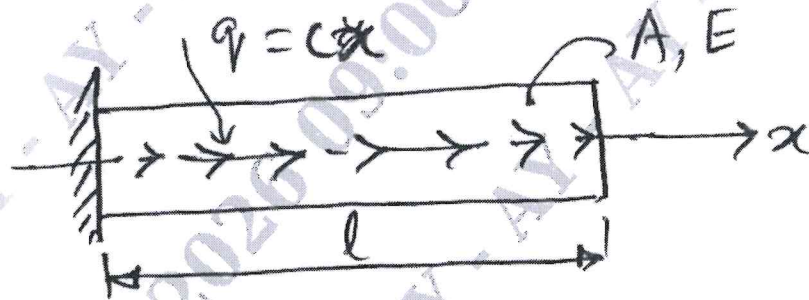

Fig. Q.2 (c)
- c. A bar of length L , cross sectional area A and modulus of elasticity E , is subjected to distributed load $q = cx$ where c is constant. Determine the expression for displacement of the bar at the end using RR method, as shown in figure Q. 2 (c).